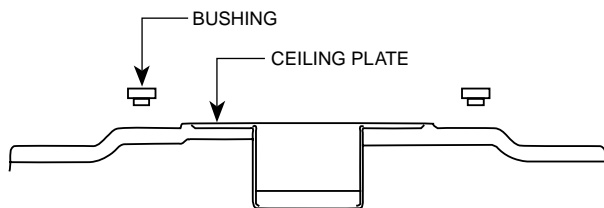

FIGURE 4
- A. Install the four (4) rubber bushings into the top of the ceiling plate by inserting the small side of the bushing into the four holes in the ceiling plate. See Figures 4 and 5.